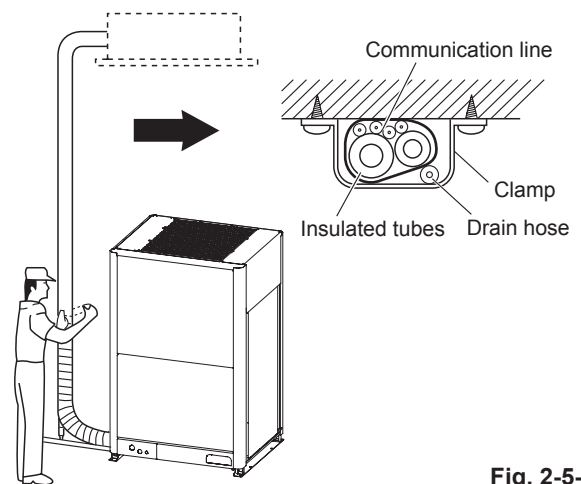

Fig. 2-5-9
- (1) At this time, the refrigerant tubes (and electrical wiring if local codes permit) should be taped together with armoring tape in 1 bundle. To prevent the condensation from overflowing the drain pan, keep the drain hose separate from the refrigerant tubing.
- (2) Wrap the armoring tape from the bottom of the outdoor unit to the top of the tubing where it enters the wall. As you wrap the tubing, overlap half of each previous tape turn.
- (3) Clamp the tubing bundle to the wall, using 1 clamp approx. each meter. (Fig. 2-5-9)